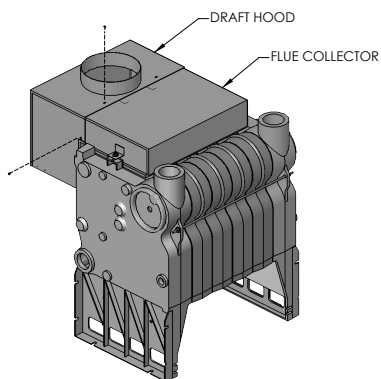

Figure 2.7: Draft Hood Attachment
7. Attach the Draft Hood to the Flue Collector using #10 x 1/2" sheet metal screws provided. Refer to Figure 2.7.